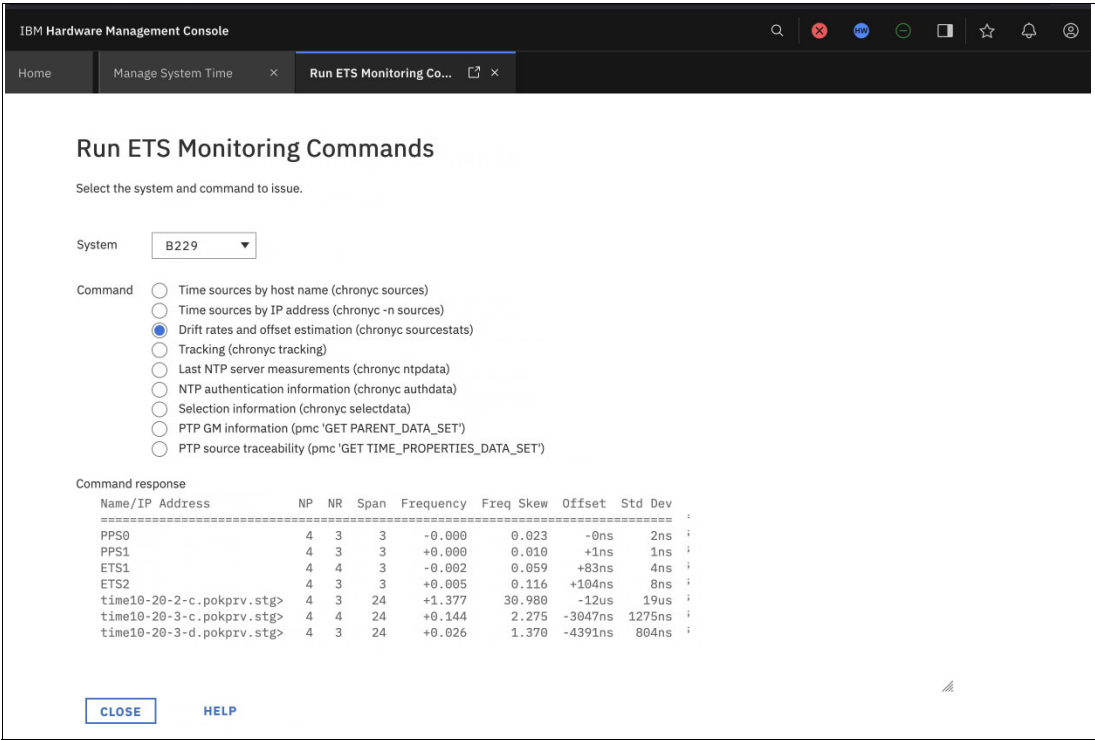

Figure 4-52 Drift rates information for configured time sources
4. Time source drift rates information is shown in Figure 4-52.